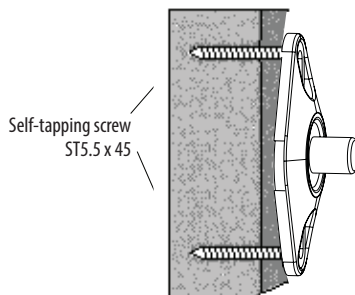

Figure 7
Note: Position the mounting holes vertically during application (see Figure 7).
3. Drill holes in drywall and wood construction using a 1/8" drill bit. These holes should be drilled to a depth of 1-7/8" (see Figure 7).